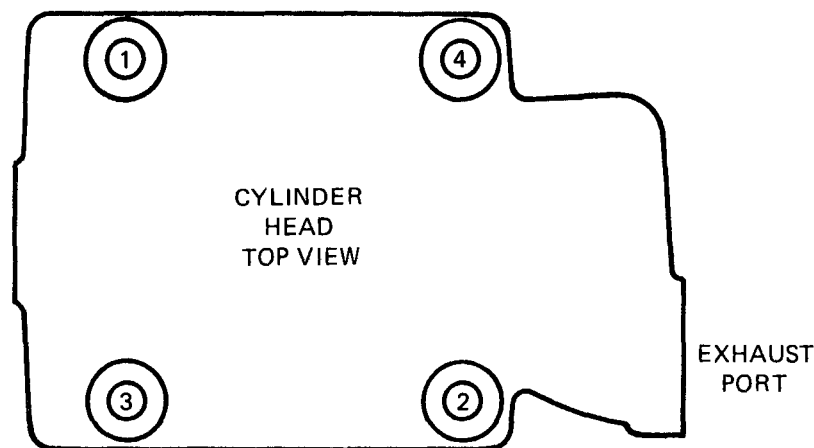

Figure 1-1. Cylinder Head Torquing Sequence.
* Use sealing compound (Table 2-2, item 6) on cylinder head end only.
- *** Before torquing, apply lube oil to stud and nut threads. Torque nuts to 20, 35, and finally 45 N.m. (15, 26, 33 ft lb) using the sequence 1-2-3-4-4-3-2-1-1-2-3-4. See Figure 1-1.